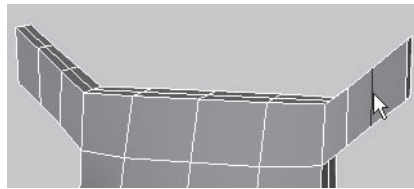

FIGURE 3.73 Middle edge of the right arm selected.
9. Click the middle edge of the sack's right arm to select it, as shown in Figure 3.73.